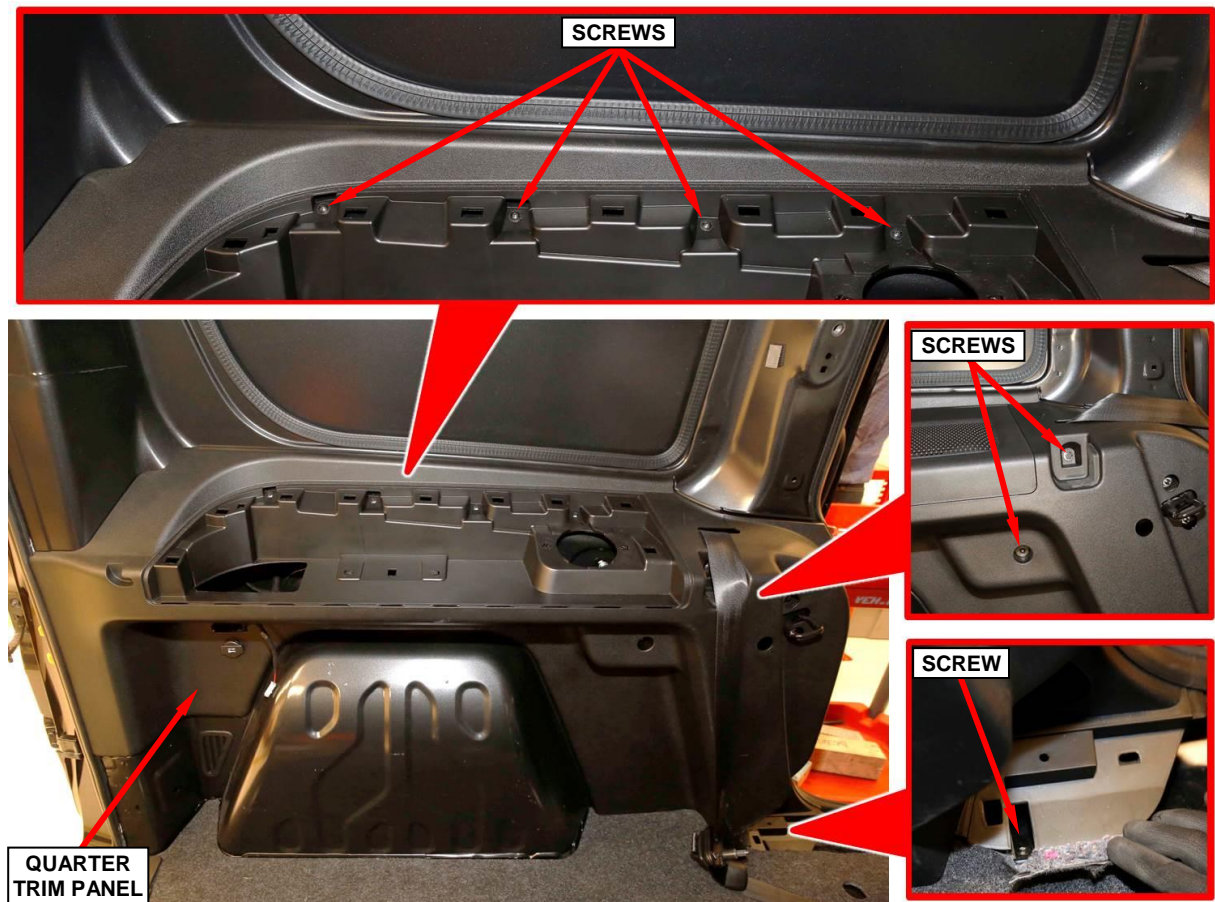

Figure 17 – Quarter Trim Panel
19. Remove and save seven screws from the left rear quarter trim panel (Figure 17).
20. Remove and save the left rear quarter trim panel while routing the seatbelt webbing through the slot in the trim panel (Figure 17).
30. Route the seatbelt webbing through the slot in the left rear quarter trim panel then install the trim panel (Figure 17).
31. Install the seven screws securing the left rear quarter trim panel (Figure 17).